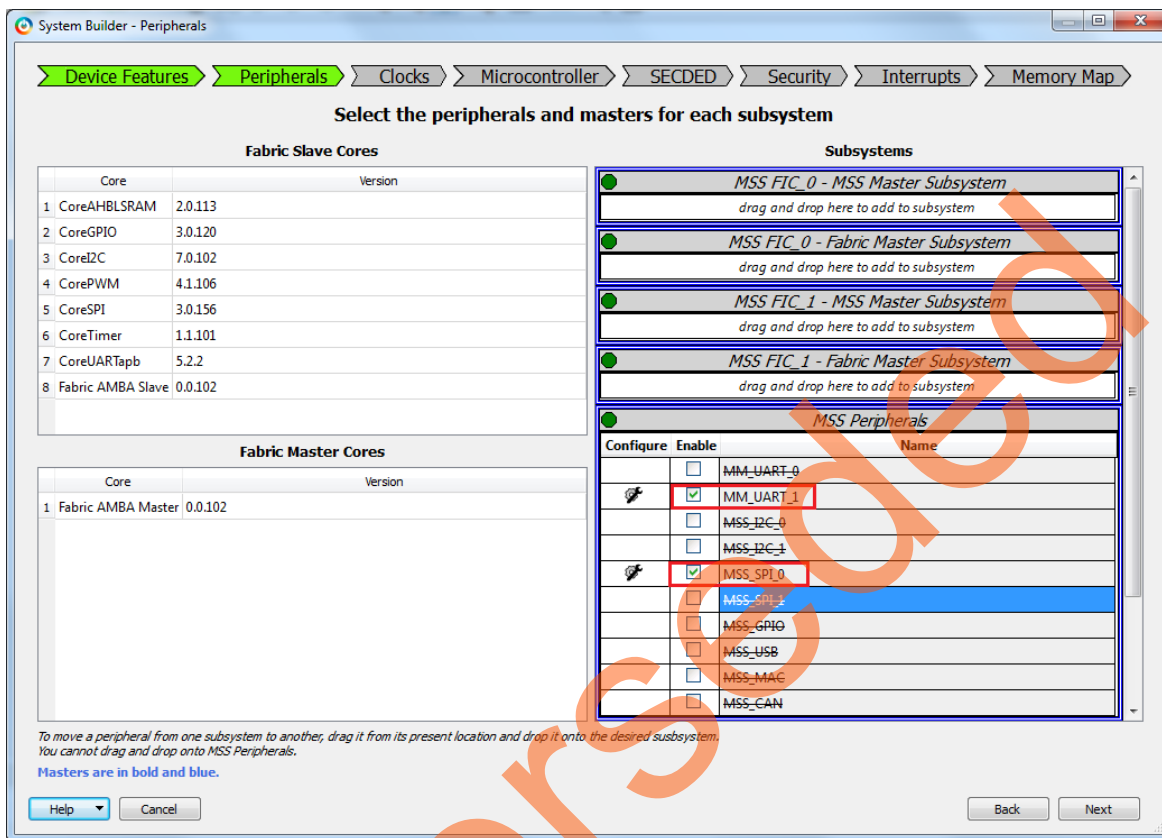

Figure 8 • System Builder – Peripherals Page
10. Click **Next**. This opens **System Builder - Peripherals** page as shown in Figure 8.
11. Under the MSS Peripherals section, clear all the check boxes except **MM_UART_1** and **MSS_SPI_0**, as shown in Figure 8.